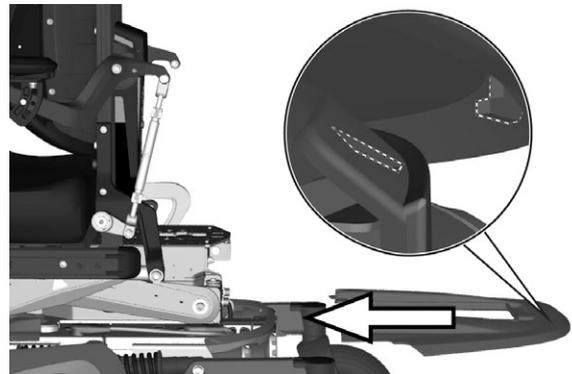

Figure 28. The chassis top cover.
4. Lift/pull the top chassis covers off the chassis. See fig. 28.